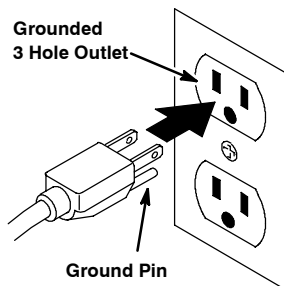

FIG. 29
3. Connect the charger's AC power supply cord to a properly grounded receptacle (Figure 29).